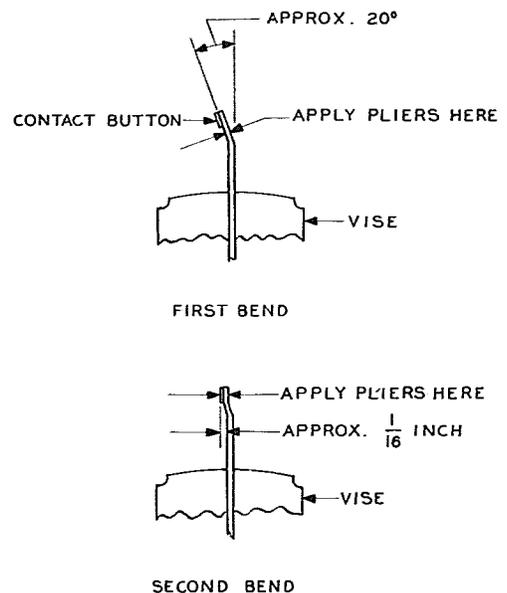

Fig. 2 - Modifying No. 21 Electrode
3.07 Examine the tips of the feeder brushes. If the offset portion is worn off and it appears that it will not be possible to weld satisfactorily on the flat side of the spring, replace the feeder brush as covered in Section A508.201. Using the P-long-nose pliers, straighten the tips of all feeder brushes on the bank except those having precious metal contacts on 32-type banks so that the portion which was offset is brought into line with the brush prong. Position the No. 395A feeder brush spacer over the brushes so that the top of the spacer is slightly below the feeder brush crotches as shown in Fig. 2. This will support the feeder brushes during the clipping and contact welding operations. Insert the No. 179A gauge as far as possible between the prongs of each feeder brush as shown in the figure.
3.12 To modify the movable electrode, remove this electrode from the welding pliers as covered in 3.14. Clamp the electrode in a vise as shown in Fig. 2 so that the tip of the electrode is approximately 1/2 inch above the jaws of the vise. Place the tips of the P-long-nose pliers over the electrode just behind the contact button at the points designated